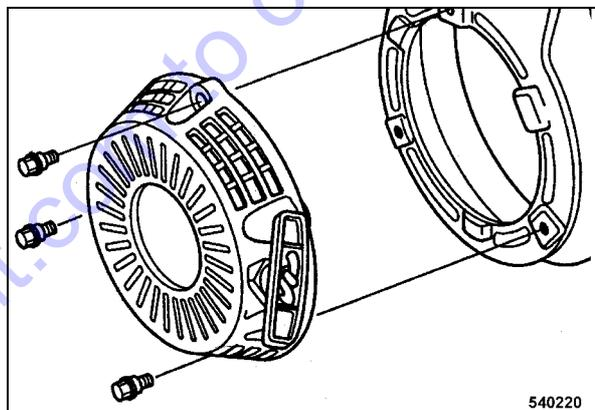

Fig. 49
- Remove the recoil starter (Fig. 49).